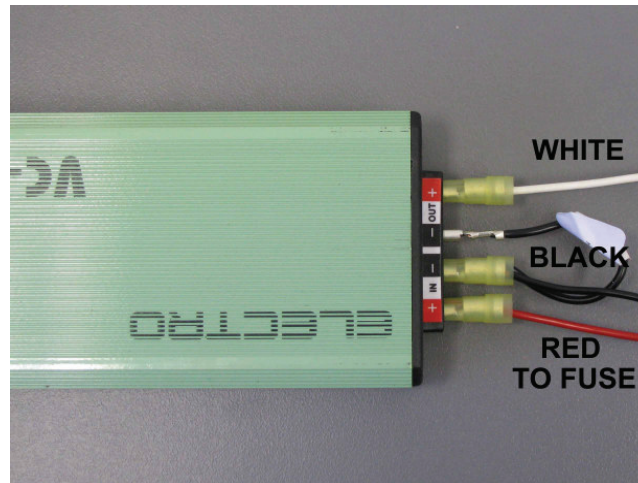

Figure 5 Wire Position
- p. Connect the red, white and two black wires to the new voltage converter (Figure 5).